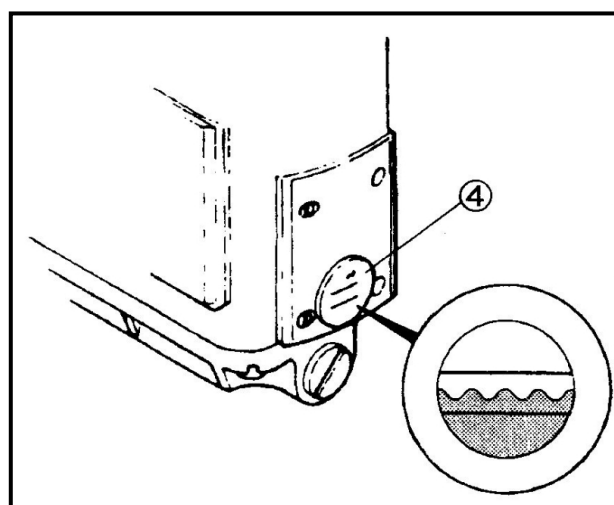

Fig.14
- (2) 從油孔①加油直到油量到③最上方的紅線，從油孔②加油直到油量到④最上面的紅線。(Fig.14)
- (3) 使用機器前檢查油水平。如果沒到水平線要加油。
- (4) 當機器在使用中時，從油鏡⑤和⑥檢查油有無供應。
- (1) Remove the plug screws ① and ② indicated "OIL" and supply oil.
- (2) From the plug screw ①, supply oil until the oil level indicator top reaches the upper line in the oil sight gauge ③. From the plug screw ②, supply oil to the upper line in the oil sight gauge ④. (Fig.14)
- (3) Check the oil level between the lines in the oil sight gauge ③ and ④ before running a machine. If it is under the lines, supply oil.
- (4) Check the oil splashes from the nozzle inside the oil sight top windows ⑤ and ⑥ when starting to run a machine.